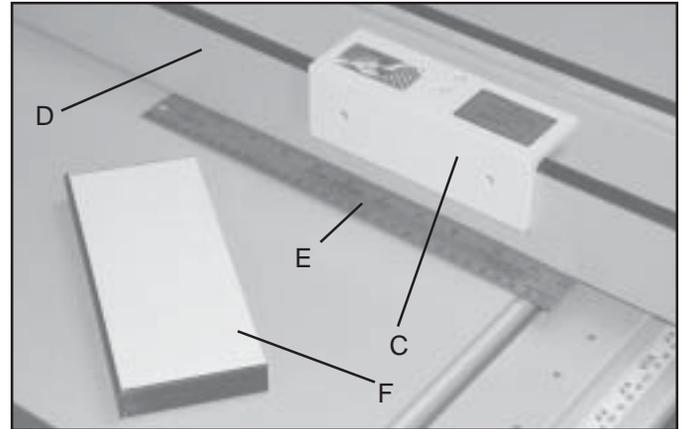
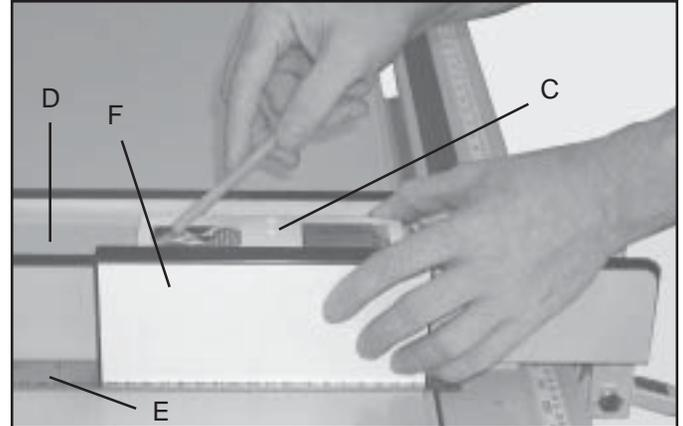
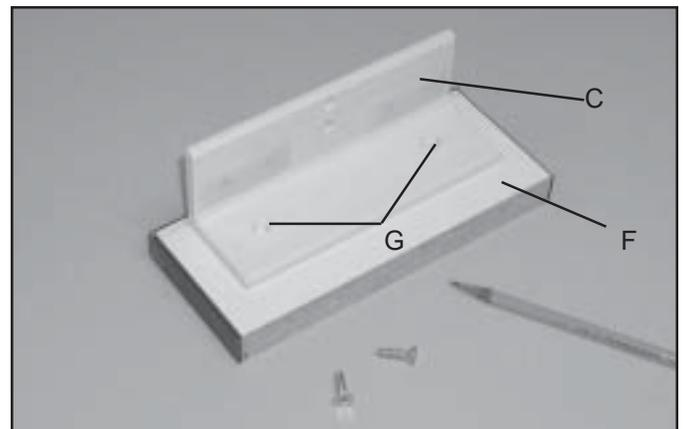

Fig. 3
Fig. 4
Fig. 5
2. Place cut-off support (C) Fig. 3, onto saw fence (D) as shown.
3. Place a straight edge (E) Fig. 3, approximately 1/16" - 1/8" thick, onto saw table as shown. Then, place cut-off fence board (F) Figs. 3 and 4, vertically onto straight edge (E) and against saw fence (D) with the unfinished edge down as shown in fig. 4.
4. Hold cut-off fence board (F) Fig. 4, firmly against cut-off fence support (C), and draw a line across the rear of cut-off fence board (F) as shown.
5. Remove cut-off fence board (F) Fig. 4, and cut-off fence support (C) from saw fence (D), and place cut-off fence board onto a flat, supporting surface with pencil marks facing up as shown in fig. 5.
6. Align the top of cut-off fence support (C) Fig. 5, with the pencil line on cut-off fence board (F) and center cut-off fence support (C) onto board.
7. Using a pencil, mark the back of cut-off fence board (F) Fig. 5, through the two holes (G) in cut-off fence support (C).
8. Using a 1/8" drill bit, drill two 1/8" pilot holes 1/2" deep at the two marked locations on the back of cut-off fence board (F) Figs. 5 and 6. **NOTE: Mark the drill bit with masking tape to act as a depth gage to prevent drilling through fence board.**